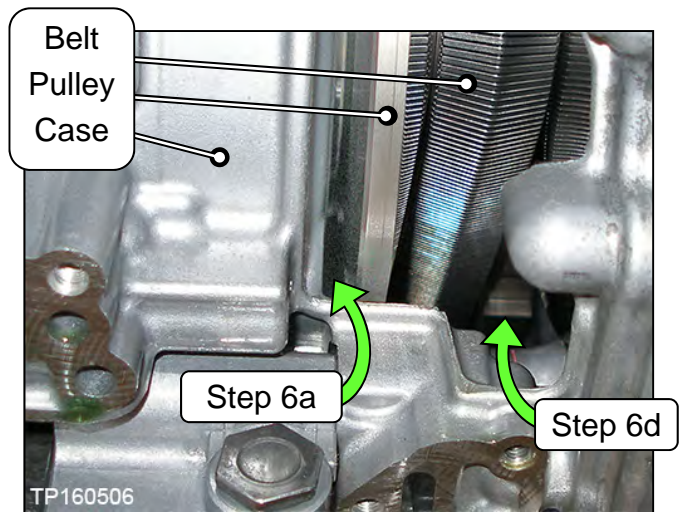
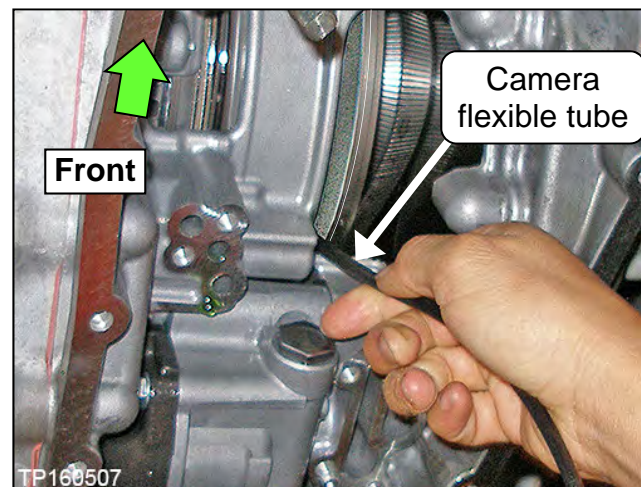
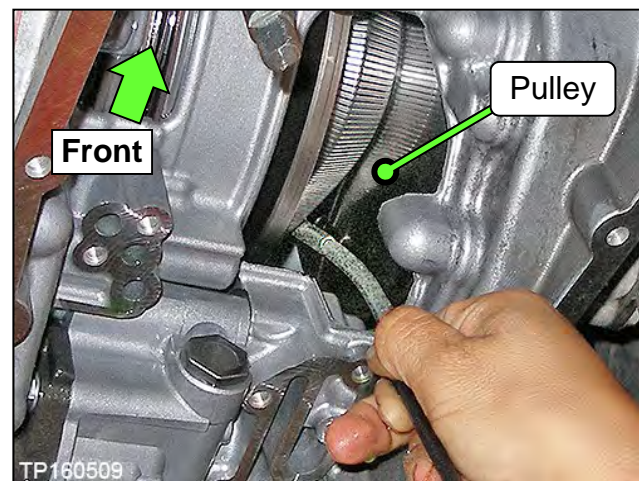

Figure 3
Figure 4
Figure 6
a. Insert the camera lens between the CVT case and pulley where shown in Figure 3 and Figure 4.
- Insert the lens approximately seven (7) inches, and then view the side of the belt that contacts the pulley.
- Insert the camera lens in the second location where shown in Figure 3 and Figure 6, and then perform step 6b again.